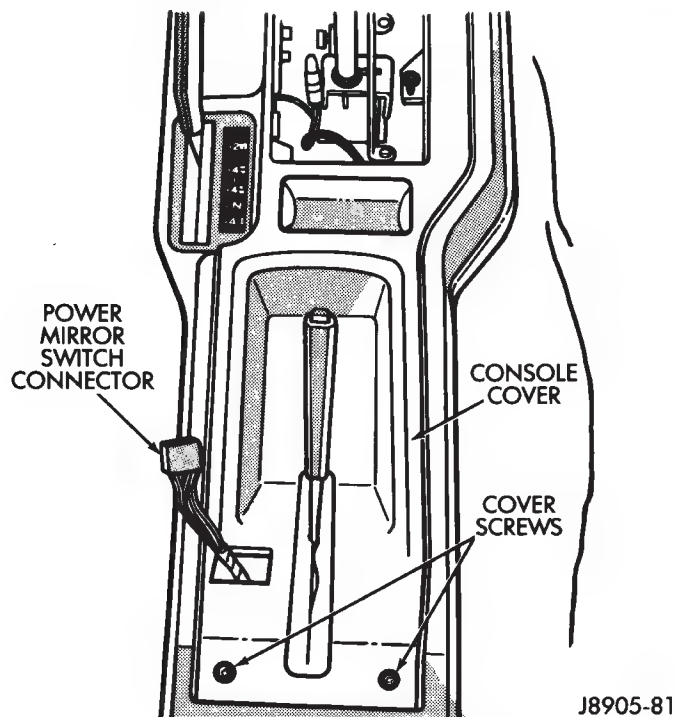

Fig. 9 Console Cover Screws And Power Mirror Switch Connector
(9) Remove console cover screws (Figs. 9 and 10).
(10) On models with power mirror switch, pry switch out of console cover and disconnect switch connector (Fig. 9).